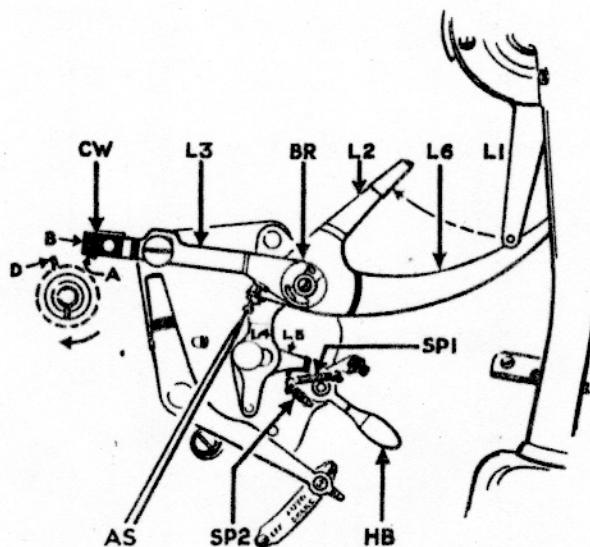

FIG. 7.
The auto brake lever must be set to the "OFF" position and the motor stopped by the handbrake (HB, Fig. 7).
2. With the pick-up on the rest as shown in Fig. 7 adjust screw AS so that there is just a little clearance (about  $1/32$ -inch) between lever L6 and the pin on lever L1.